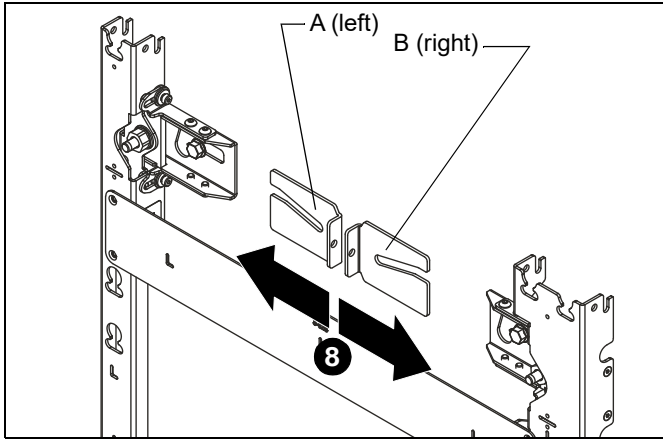
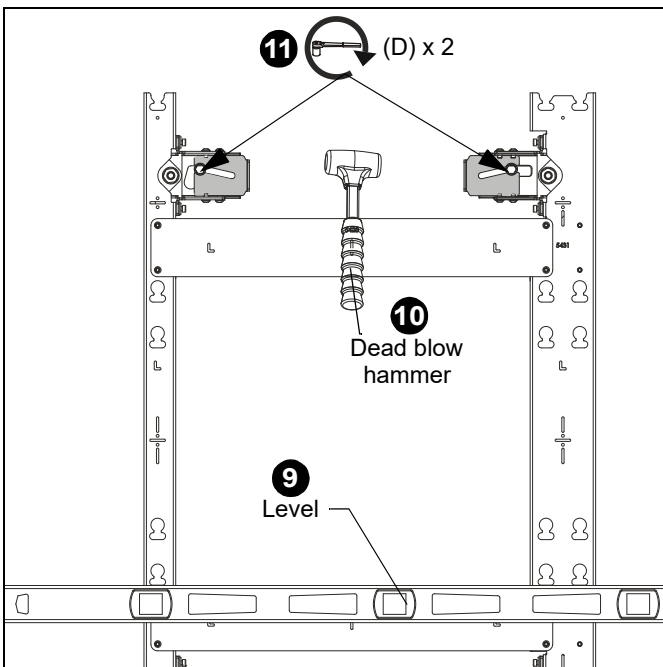

Figure 11
Figure 12
- Slide the left (A-Left) and right (B-Right) adjustment washers into place behind the partially installed lag screws. (See Figure 11)
- Check the level of the mount at the bottom of the teardrop slots. (See Figure 12)
- If the mount is not level, slide or use a dead blow hammer to lightly tap the spacer into place. This will lift the mount up as the lag screw rides in the washer's angled slot. (See Figure 12)
- When the mount is leveled, tighten the lag screws (D). (See Figure 12)
8. Hold the adjustment washers in place by hand and tighten the fasteners at the top of the mount. (See Figure 11) and (See Figure 12)